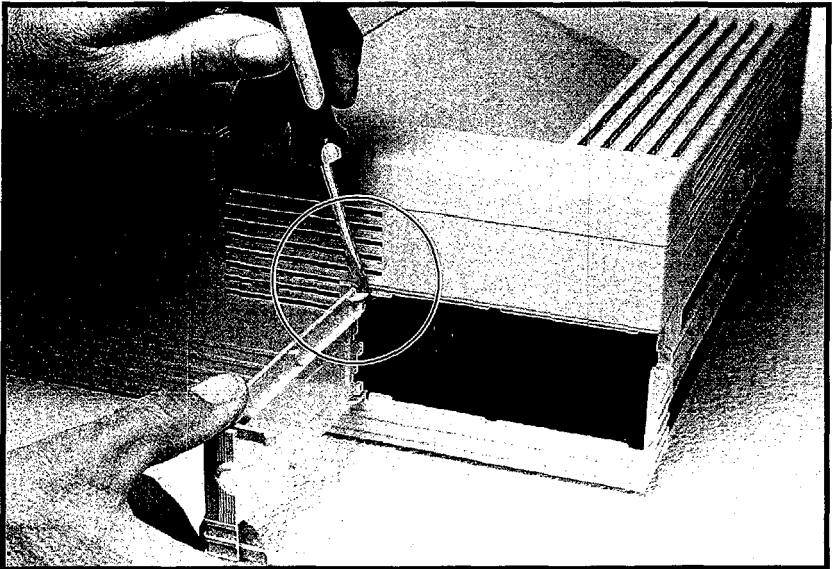

Figure 6-4 Removing the Power Access Door (LaserJet 4L/4ML)
2. Push the upper tab down slightly and tilt the door out (Figure 6-4).
1. Remove the Power Door and unplug the power cord (Figure 6-4).